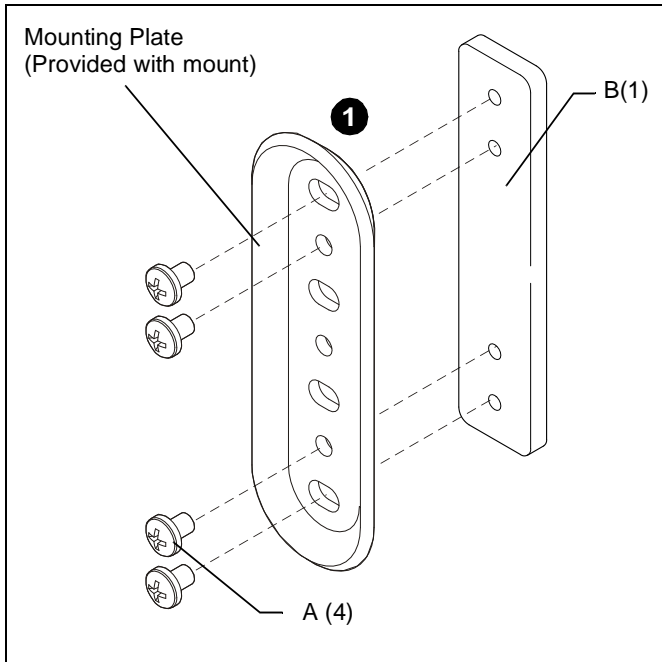

Figure 1
1. Partially install mounting plate (included with mount) to wall plate (B) using four screws (A). (See Figure 1)